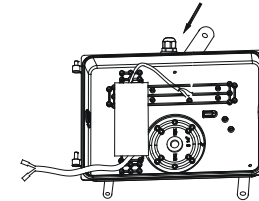

Figure 2
- Choose an appropriate connection hole according to your requirements. Loosen the plug, and then tie the waterproof connector from the accessories; rotate the three mounting kits to the proper angle. (Figure2)